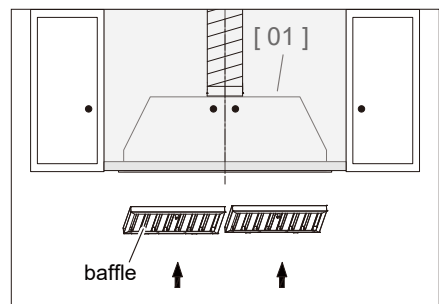

Fig 5
1. Install the **baffles** back to the range hood to finish the installation. (Fig 5)